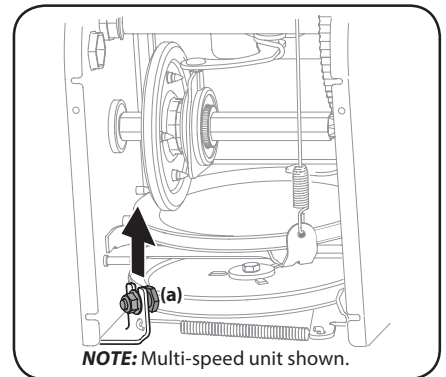

Figure 4-18
7. Loosen and remove shoulder bolt (a) which acts as a belt keeper. See Figure 4-18.
NOTE: Make sure to reinstall shoulder bolt (a) and reconnect spring to frame after installing a replacement auger belt. Refer to Figure 4-18.